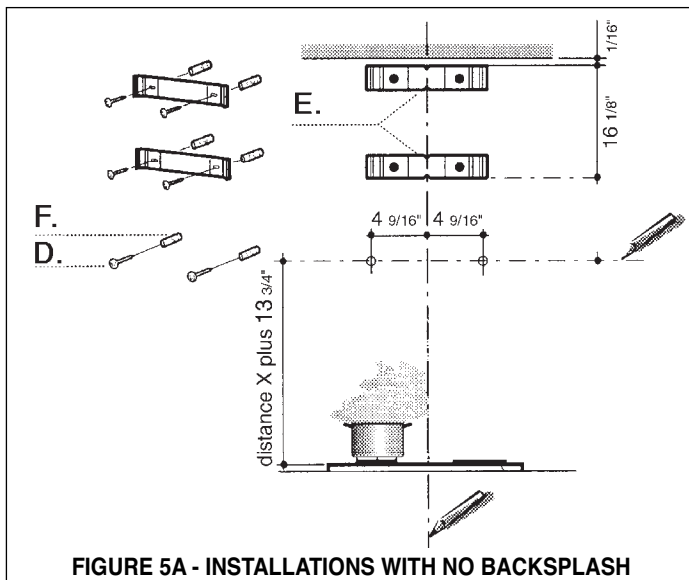

FIGURE 5A - INSTALLATIONS WITH NO BACKSPLASH
3. Based on your ceiling height and/or personal preference, determine the distance you would like between the bottom of the hood and the cooktop (**distance X in FIGURE 4A OR 4B**). Draw a horizontal line the height of **distance X plus 13 3/4"** (as indicated in **FIGURE 5A - INSTALLATIONS WITH NO BACKSPLASH**).
4. Place the **UPPER CHIMNEY MOUNTING BRACKET (E)** on the wall as shown **1/16"** from the ceiling, aligning the center notch with the vertical center line. Mark the wall at the centers of the holes in the bracket.
5. Place the **LOWER CHIMNEY MOUNTING BRACKET (E)** on the wall as shown at **16 1/8"** below the upper bracket, aligning the center notch with the vertical center line. Mark the wall at the centers of the holes in the bracket.
6. Install the **CHIMNEY MOUNTING BRACKETS (E)** on the wall using the **MOUNTING SCREWS (D)** provided.
7. For the most secure installation, the **MOUNTING SCREWS (D)** which mount the **CANOPY SECTION (A in FIGURE 1)** should be installed into wood. Mark the wall along the horizontal line **4 9/16"** in from the center line on either side (as indicated in **FIGURE 5A or 5B**) and install the **MOUNTING SCREWS** into the wall leaving about **1/4"** gap between the wall and the head of the screw.